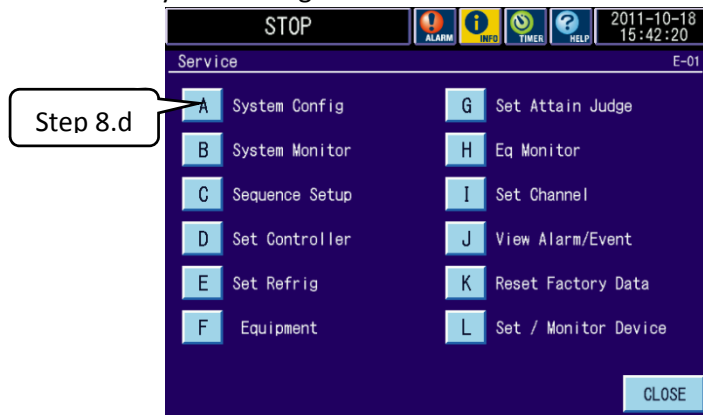

Figure 4: Service Screen
- d. Select the “System configuration” button it has a “A” icon next to it (see Figure 4).